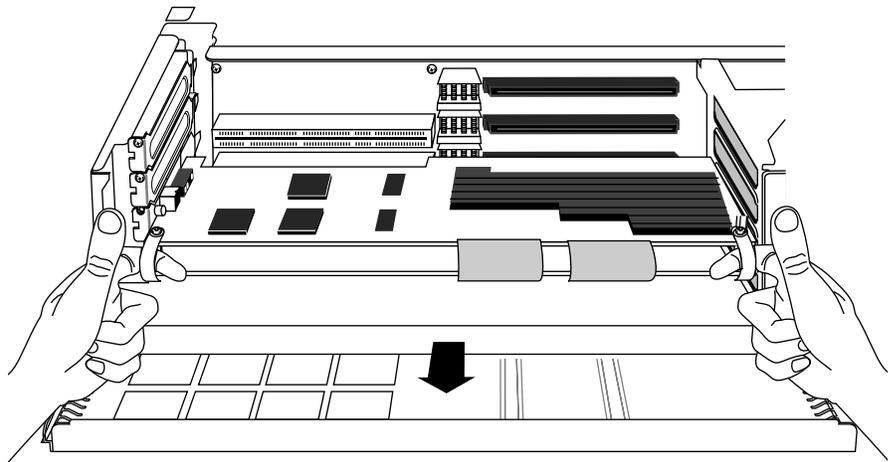

Figure 5-10 Removing the Board Set From the Chassis
- Place your index fingers behind the plastic loops on each side of each board set as shown in Figure 5-10.